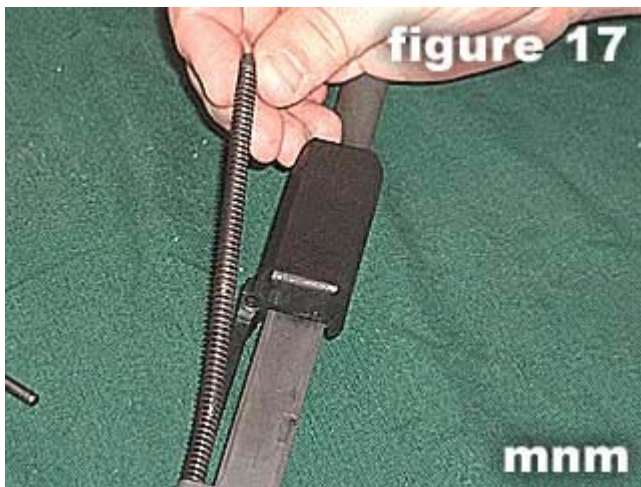

figure 15
15) As shown in figure 15, the recoil spring guide fits into a guide hole in the operating slide.